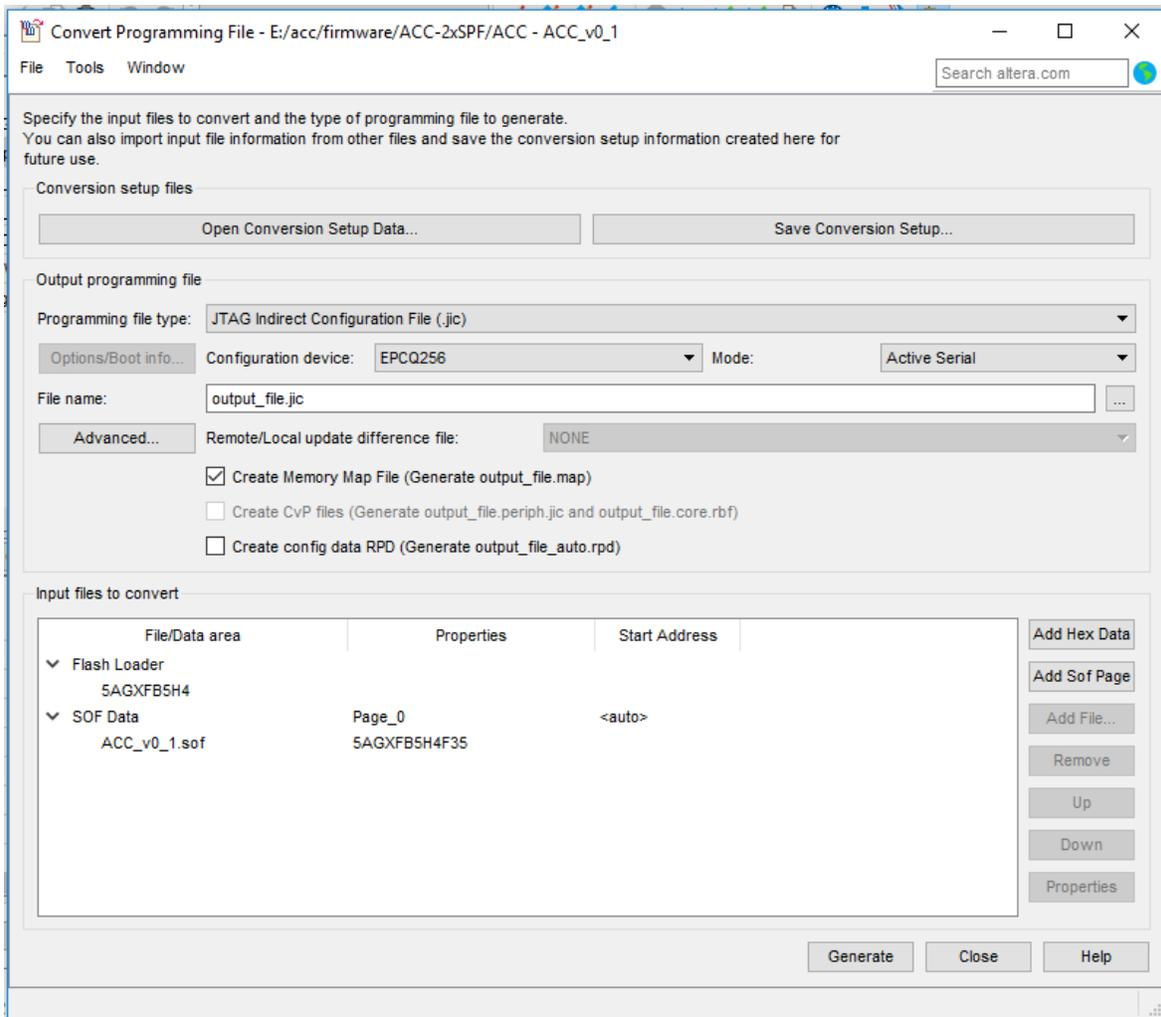

Figure 11: A screenshot of the Convert programming file menu with the proper parameters. Courtesy of J. Eisch.
3. When you generate the .jic file, there are a few parameters that will be different. These differences can be seen in figure 11. You can find the flash loader under "Arria V".